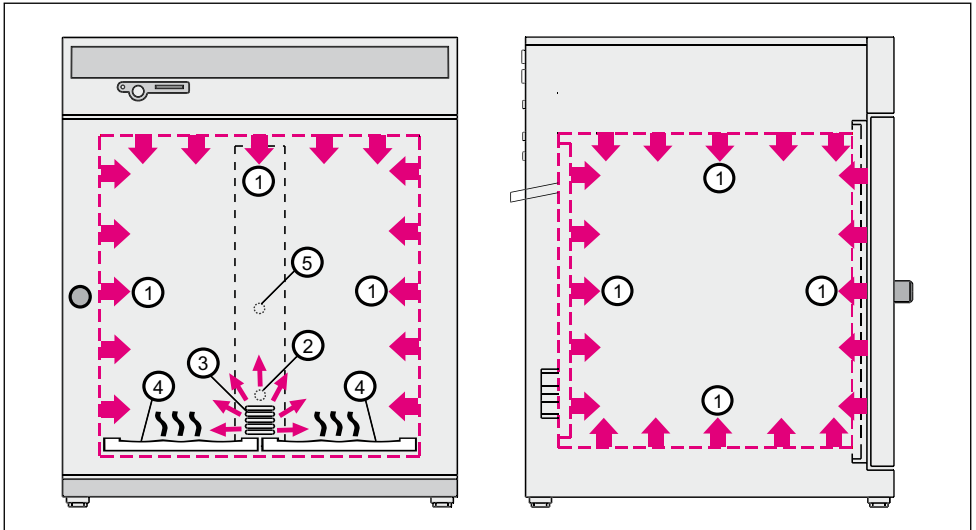

Fig. 3 How INCO incubators work
The air in the incubator is heated up by an all-round heater with a large surface (Fig. 3, No. 1). The CO₂ and/or N₂ gas is introduced into the working chamber via a sterile filter. Because CO₂ has a much higher specific weight than air, the gas is let into the working chamber above the interior fan (2). The turbulence-free interior ventilation (3) ensures a uniform distribution of the gases, creating a homogenous atmosphere.
- ▶ All-round heater with larger surface area, with additional thermal conduction layer (see Fig. 3)